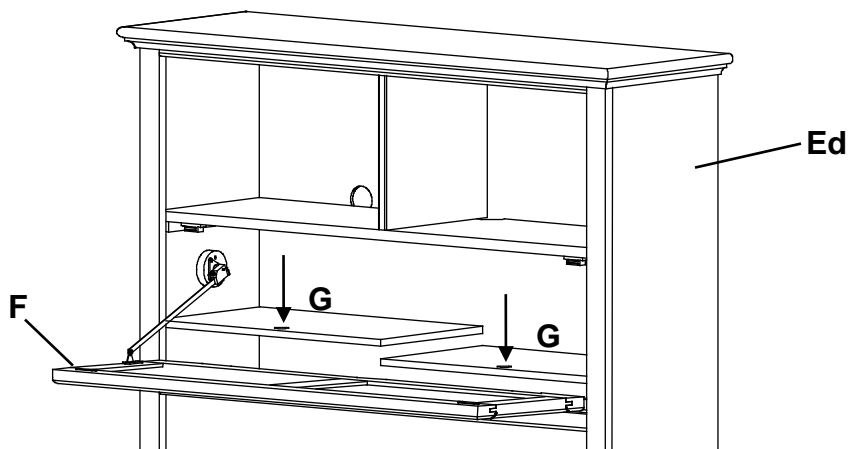

Fig. 7
7. Unwrap the False Bottoms (G) and place them on top of the rails in the Headboard Assembly (Ed). Make sure the finger holes face forward as shown in Figure 7. After you have placed your electronics inside the cubbies, use the Wire Clips (J) on the underside of the cubbies to secure the wires. Close the door tightly making sure the magnetic catches and plates securely touch.